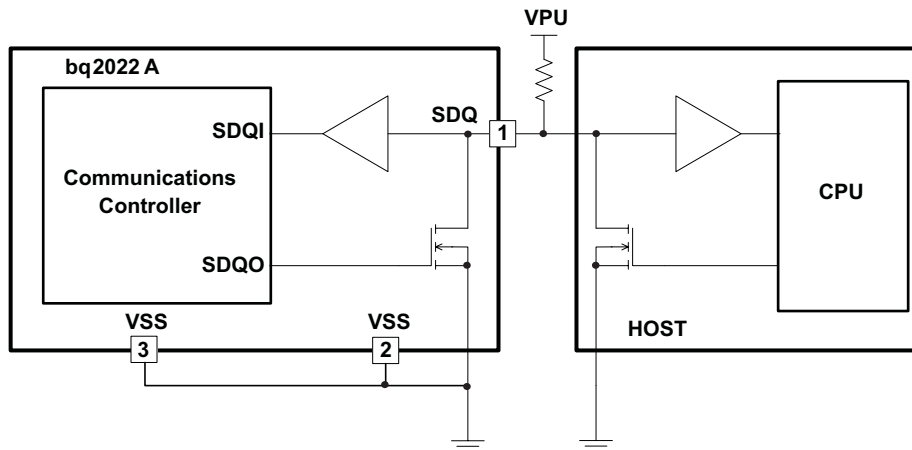

Figure 1. Typical Applications Circuit
(1) 5-kΩ series resistor between SDQ pin and VPU. (See Figure 1)
(2) tWDH must be less than tc to account for recovery.
Because the drive output of the bq2022A is an open-drain, N-channel MOSFET, the host must provide a source current or a 5-k $\Omega$  external pullup, as shown in the typical application circuit in Figure 1.